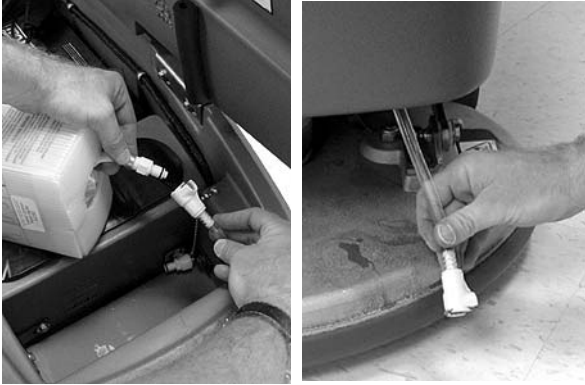

FIG. 66
1. Disconnect the FaST-PAK from the FaST system and route the supply hose down to the scrub head (Figure 66).